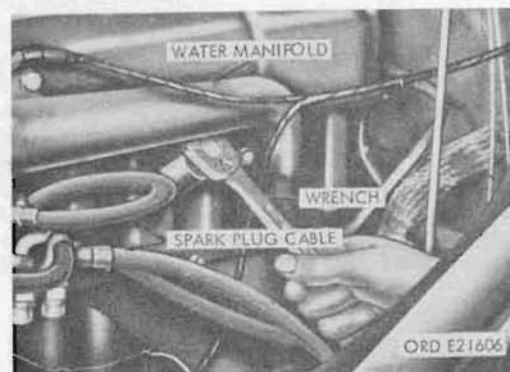

Figure 144 Removing or installing a spark plug
a. Removal. Remove the spark-plug cable (par. 99) from the spark plug. Use the spark-plug wrench or deep socket wrench to remove the spark plug (fig. 144). Discard gasket.
d. Installation. Place a new gasket on the spark plug and start plug into the cylinder head. Tighten the plug until it bottoms against the gasket, using a deep socket or spark-plug wrench (fig 144). Then tighten the plug one-quarter to one-half turn to partially compress the gasket. Do not tighten enough to crush gasket.